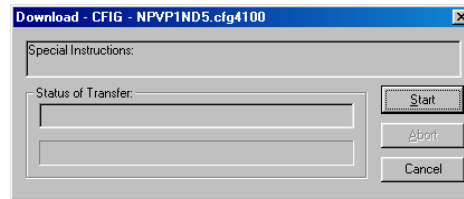

Figure 15-14. Download Start Dialog
6. Click the Download button. The dialog shown in Figure 15-14 appears.